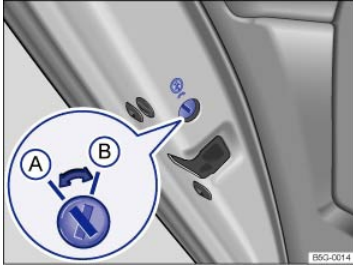
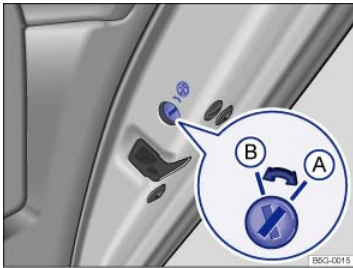

Fig. 60 In the rear driver side door: Child safety lock (A) deactivated, (B) activated.
Fig. 61 In the rear passenger side door: Child safety lock (A) deactivated, (B) activated.
**Slot position** ⇒ Fig. 60 or ⇒ Fig. 61 :
- (A) Child safety lock deactivated.
- (B) Child safety lock activated.